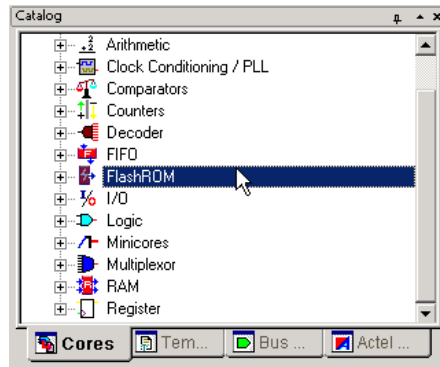

Figure 3-4. SmartGen PLL Selection
4. Scroll through the core types listed in the Categories tab and click FlashROM (Figure 3-4).